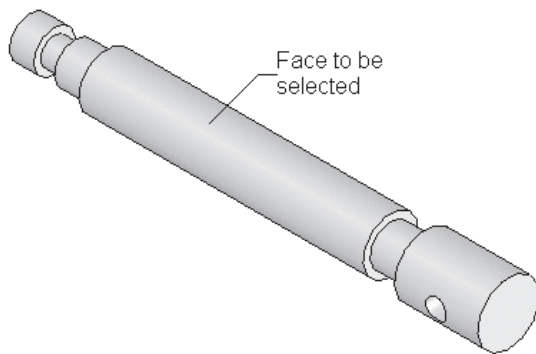

Figure 11-59 Face to be selected
- Drag and drop the jaw screw in the assembly document and apply the required mates, refer to Figures 11-59 through 11-64.
5. Press and hold the ALT key down on the keyboard and then select the face from the location shown in Figure 11-59.